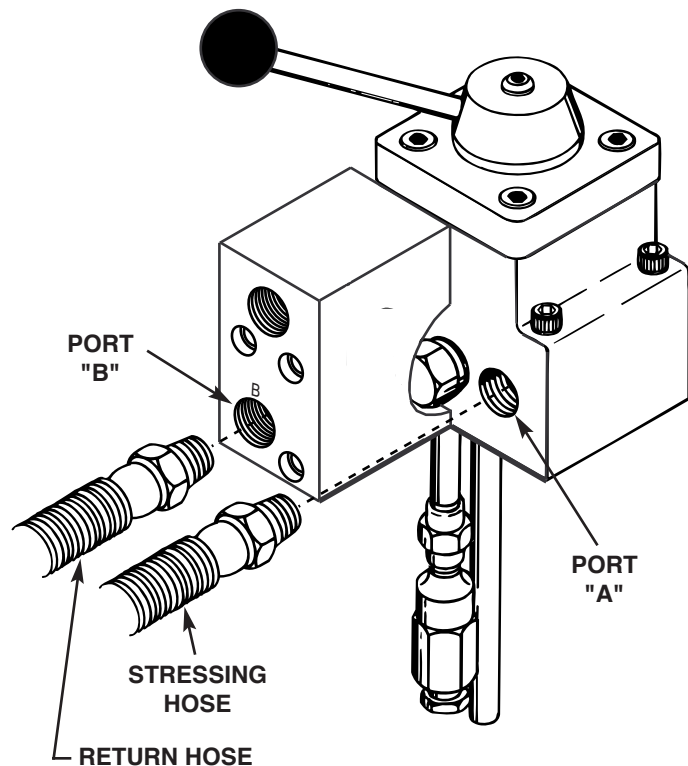

Figure 2
3. Connect the stressing hose from the stressing jack to the "A" port of the valve. See Figure 2.